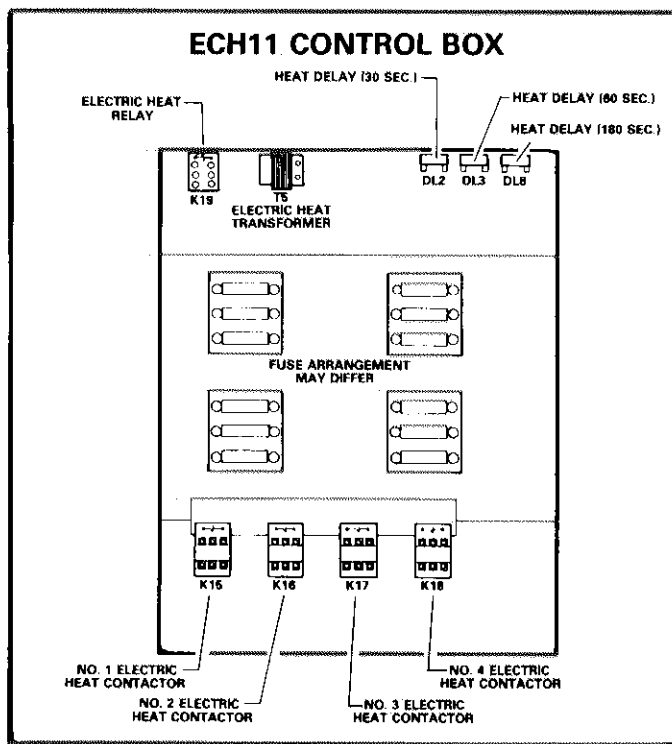

FIGURE 19
- 2 - The elements install in the heating section. The electric heat control box sets adjacent to blower housing. Figure 19 identifies components in the ECH11 control box.